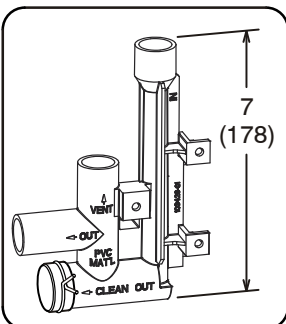

FIGURE 46
- 3 - Install the cap over the clean out opening at the base of the trap. Secure with clamp. See figure 46..
- 4 - Install drain trap using appropriate PVC fittings, glue all joints. Glue the provided drain trap as shown in figure 46. Route the condensate line to an open drain.